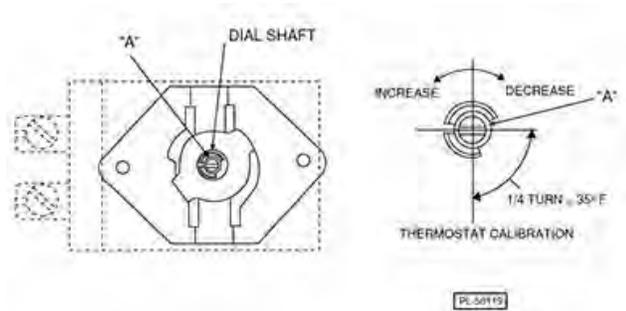

Fig. 122
4. Pull dial straight off dial shaft without turning (Fig. 122).
5. Turn screw "A" clockwise to decrease temperature and counterclockwise to increase temperature (Fig. 122); 1/4 turn of Screw "A" represents a temperature shift of 35°F.